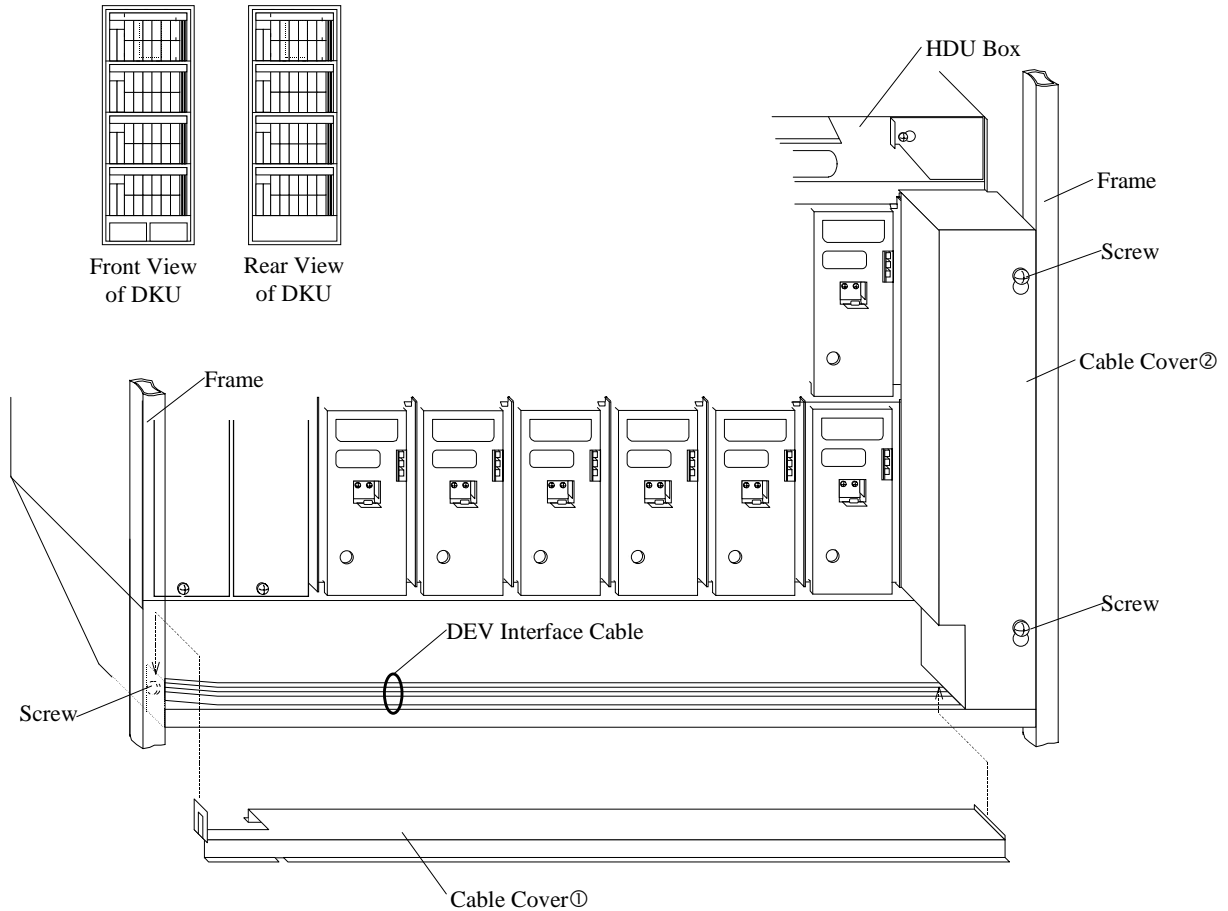

Fig. T20-1 Removal of Cable Covers
8. Attach the cable covers ① and ② with the screws. Refer to Fig. T20-1.